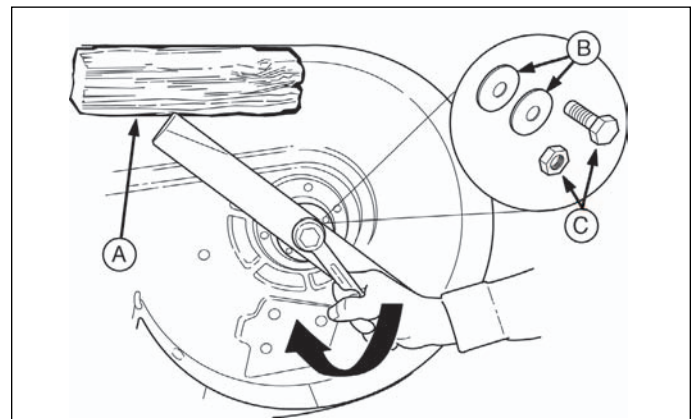

Figure 16. Blade Installation
3. Remove the capscrew or nut (C, Figure 16), blade washers (B), and blade.
6. Reinstall the blade (Figure 16) with the tabs pointing up toward the mower deck as shown.
7. Reinstall the blade washers (B, Figure 16), concave side up, and capscrew or nut (C). Use a wooden block (A) to prevent blade rotation while tightening the hardware. Torque hardware to 80-90 ft-lbs (38" decks) or 30-40 ft-lbs (42" decks).